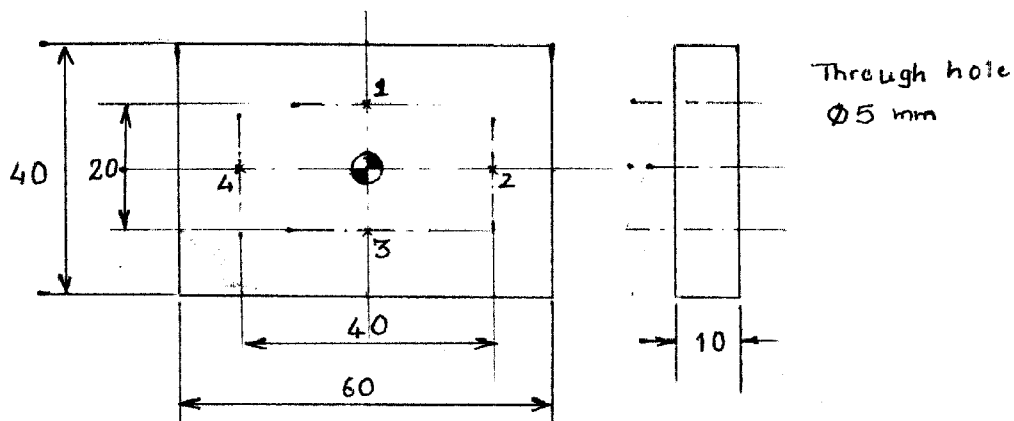

Fig. 1
- (1) Write manual part program for drilling series of holes for the work piece shown in Figure 1. (Drilling location, 1-4) (04)